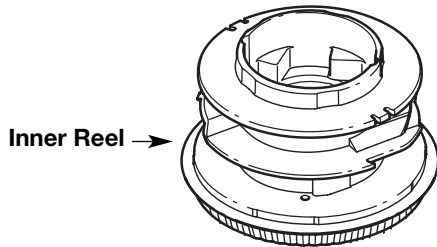

Fig. 17
4. Remove any existing line from the inner reel before cleaning. Remove any debris or grass from the knob, spring, inner reel, and foam seal. Wash the inner reel with warm soapy water (Fig. 17).